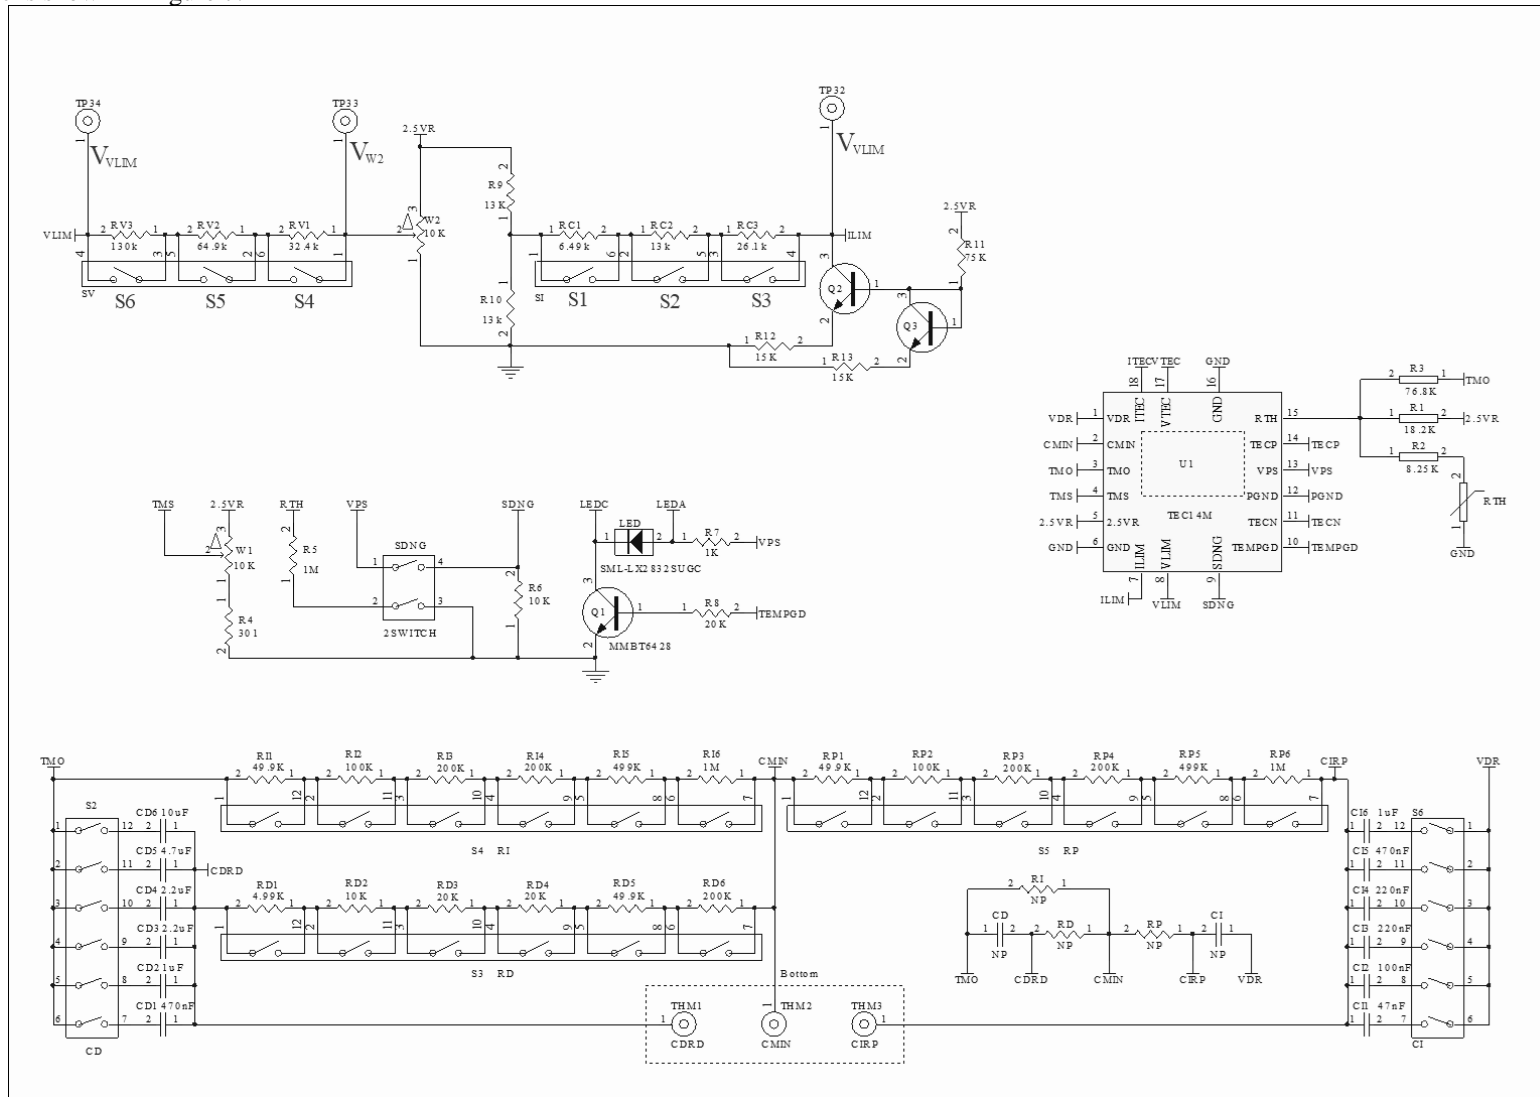

Figure 7. Schematic of TEC Controller Evaluation Board TEC14MEV1.0
The schematic is shown in Figure 7.
- f. To control the TEC voltage directly by using a DAC, connect VTEC to the output of the DAC and use this formula: $\text{TEC voltage} = 2.5\text{V} - V_{\text{VTEC}} \text{ (V)}$.
- h. The evaluation schematic is given in Figure 7.